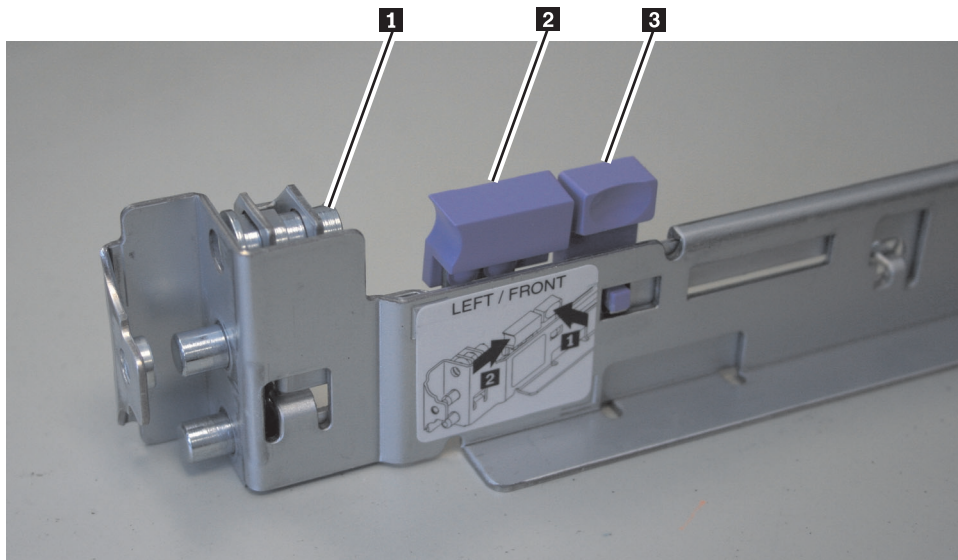

Figure 56. A closed rail-locking carrier at the front of the support rail for the SAN Volume Controller 2145-8A4
1. Ensure that the rail-locking carriers at the front and rear of each support rail are open. The mechanism to open is similar at each end. If a locking mechanism is closed, as shown in Figure 56 (for a front bracket), open it.